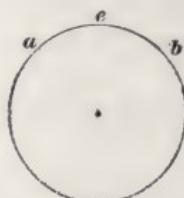

FIG. 12.
**30.** An **arc** of a circle is any part of its circumference; thus  $a e b$ , Fig. 12, is an arc of the circle.